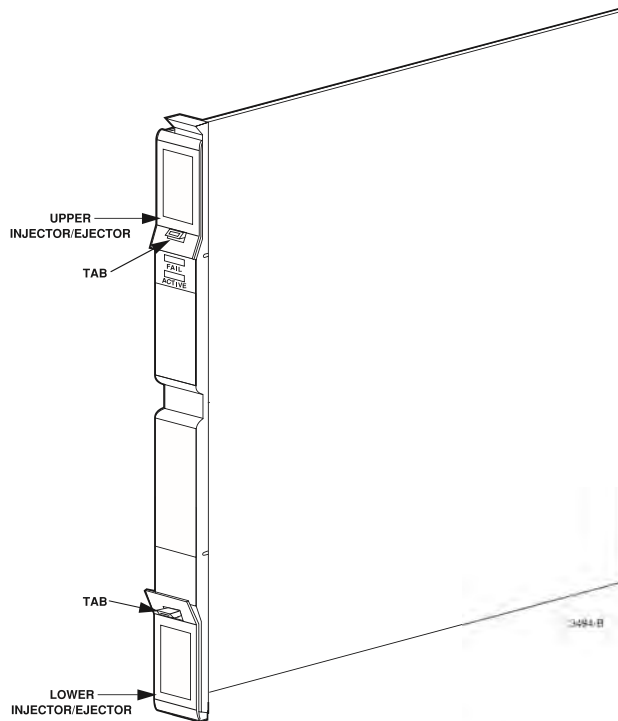

Figure 6-3. Typical Plug-In Unit
3. Release the lock tabs to free the upper and lower injectors/ejectors as shown in Figure 6-3.